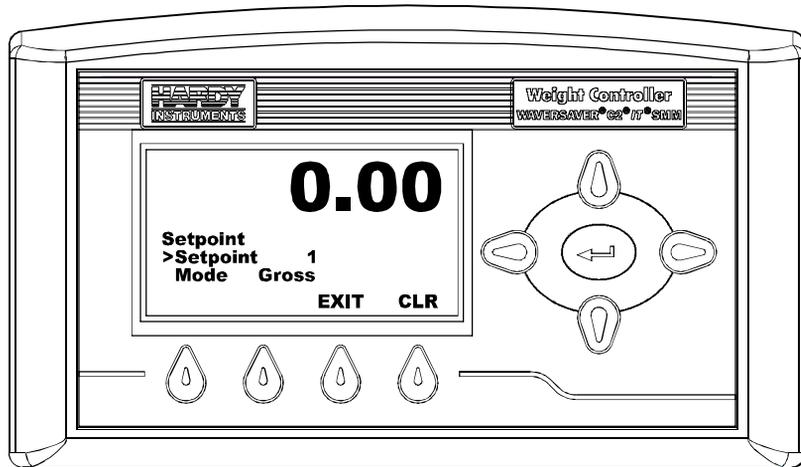

FIG. 362 SET POINT MENU/SELECTING SETPOINT 1
Step 2. Press the ENTER button. The Set Point Menu appears with Set Point 1 selected. (See Fig. 362)